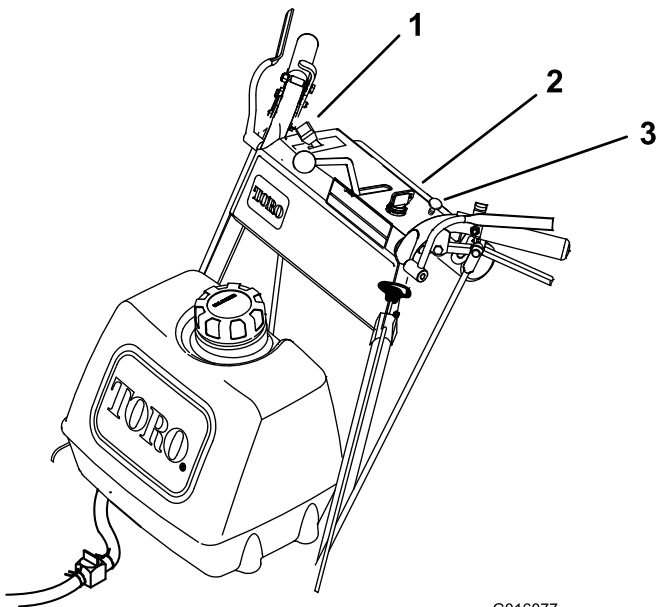

Figure 7
3. Move the throttle lever to the SLOW (Figure 7).